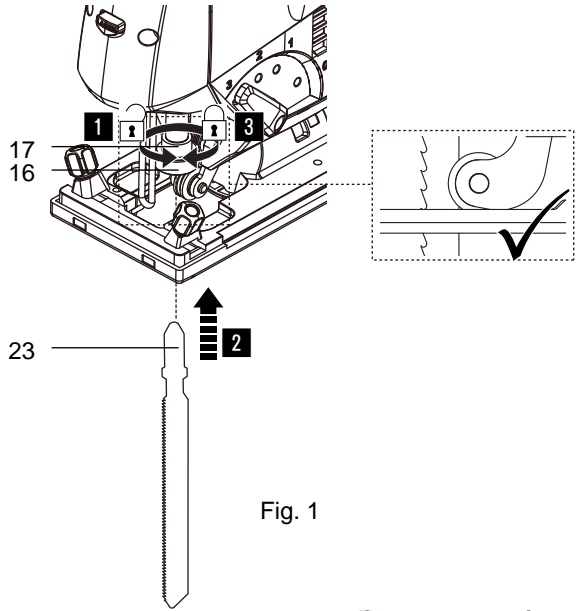

Fig. 1
2. Turn the tool socket ring (17) anticlockwise and remove the saw blade (23) (if there is any) (Fig. 1, step 1).
3. Tightly insert the required saw blade (23) into the tool socket (16) (Fig. 1, step 2) then carefully release the tool socket ring (17) (Fig. 1, step 3). Ensure the blade edge sits properly against the blade guide (15).
4. Pull on the saw blade (23) to test if it sits properly in place. It should not be possible to pull it out.